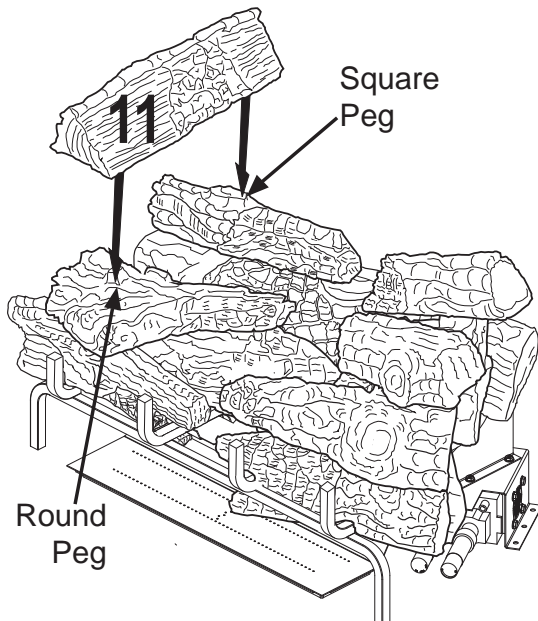

Figure 31 - Installing Log # 11
11. Place the left top log (#11) on top of the left back top log (#5) and left top forked log (#6) as shown in **Figure 31, Page 20**. Match the round peg on the top of the left top forked log (#6) with the round hole on the bottom of the top left log (#11) and rectangular peg on the top of the left back top log (#5) with the rectangular hole on the bottom of the top left log (#11).